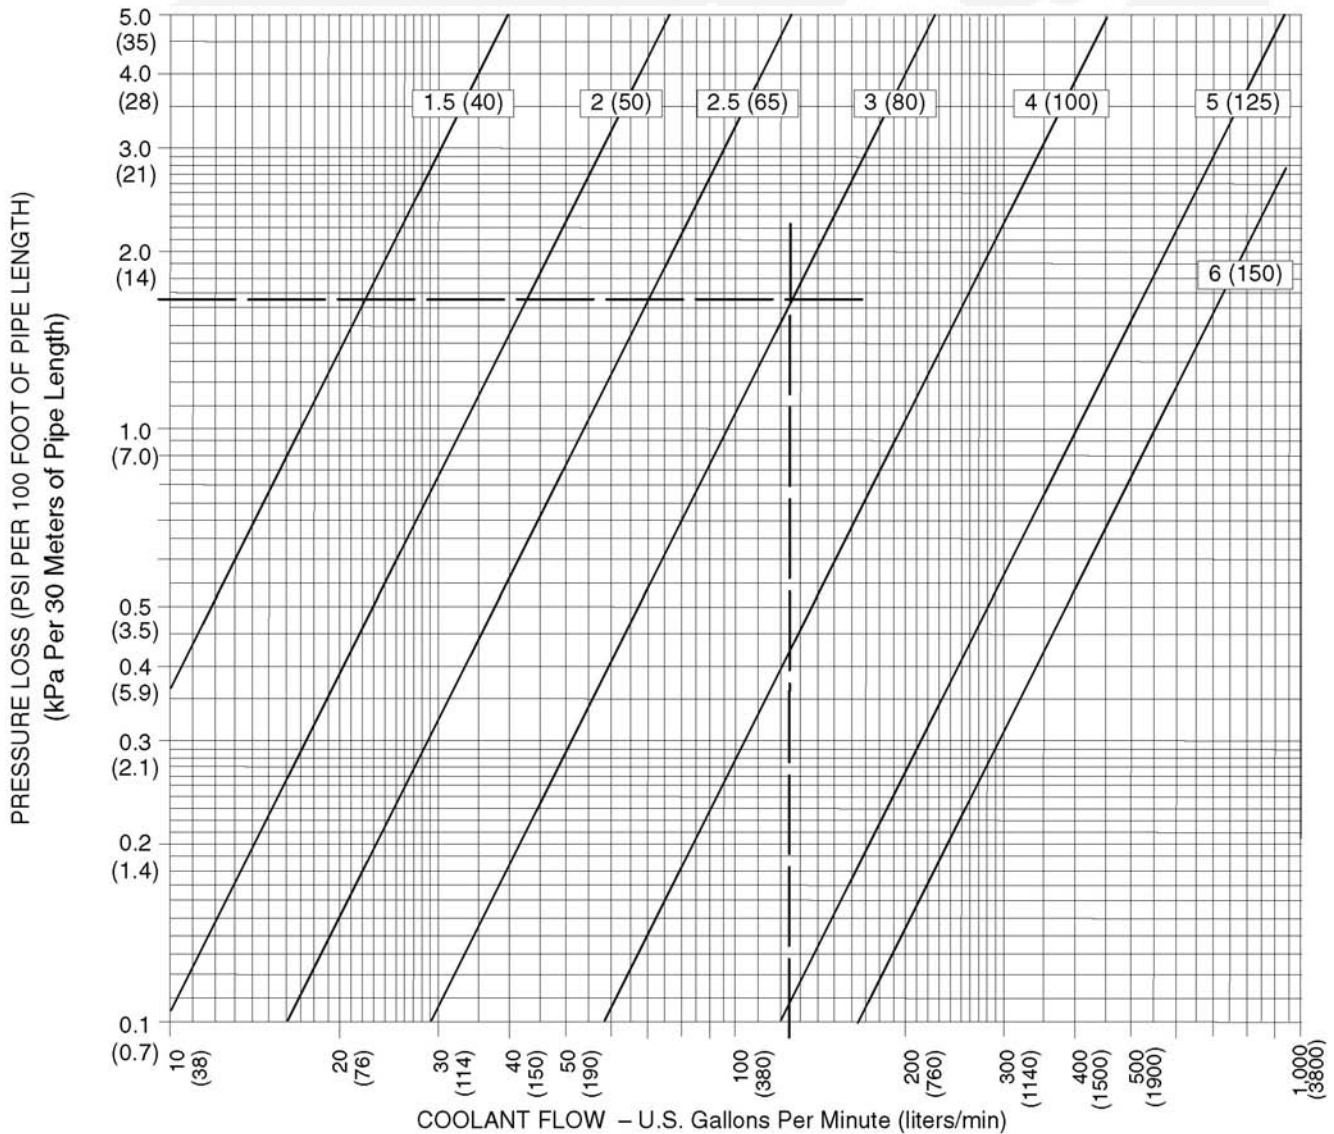

FIGURE 90. FRICTIONAL PRESSURE LOSSES FOR INCH (MM) DIAMETER PIPES
3. Find the back pressure at the given flow per unit length of pipe for the nominal pipe diameter used in the system. In this example, 3 inch nominal pipe is used. Following the dashed lines in Figure 90 on page 179, 3 inch pipe causes a pressure loss of approximately **1.65 psi per 100 foot of pipe**.